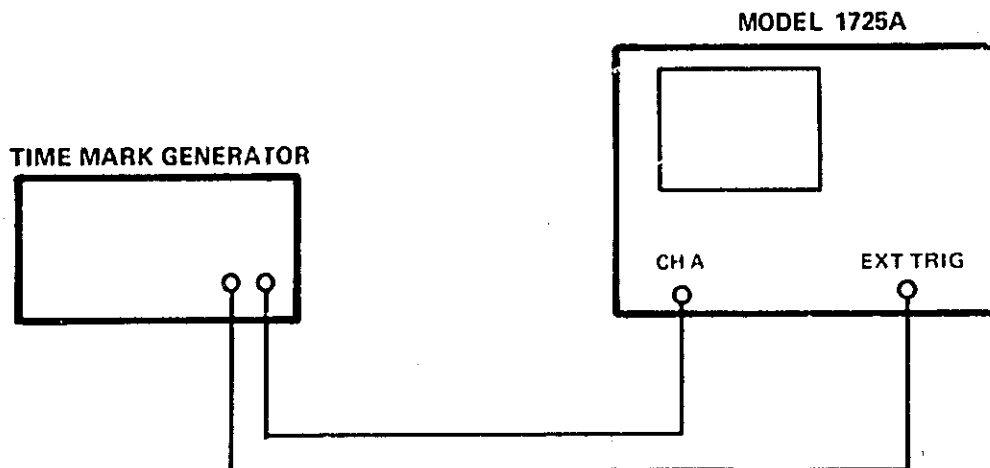

Figure 5-9. Sweep-time Test Setup
a. Connect time mark generator to Model 1725A as shown in figure 5-9.